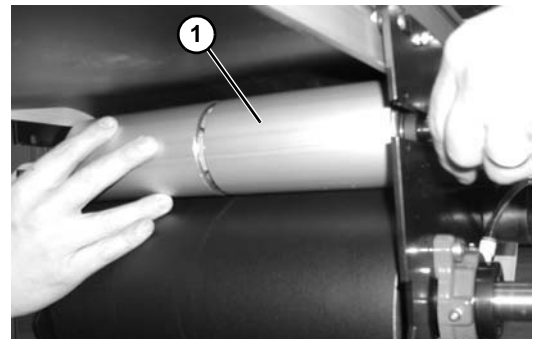

Figure 39
- Slide out tensioning roller (Figure 39, item 1).